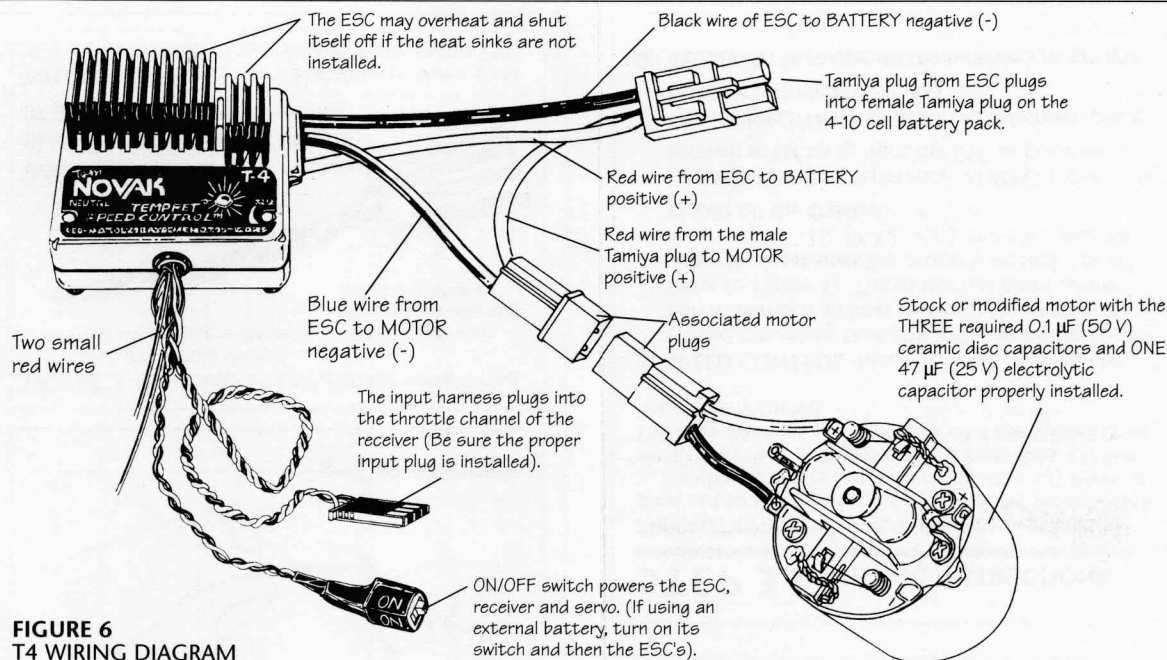

FIGURE 6
4. BATTERY & MOTOR CONNECTIONS (Figure 6/7)